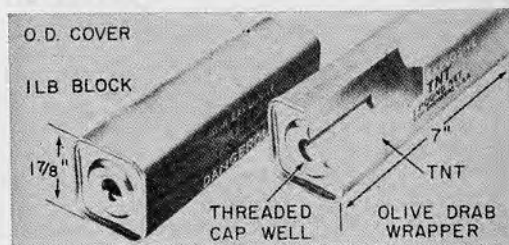

Fig. 29.1
A. TNT. TNT (Trinitrotoluene) is a powerful high explosive used for general demolition work throughout the Marine Corps. Its insensitivity makes it ideal for combat use. It is a solid cast block, pale yellow in color, issued in one-pound blocks. (See Fig. 29.1.) This one-pound block consists of two half-pound blocks in an olive drab cardboard container.